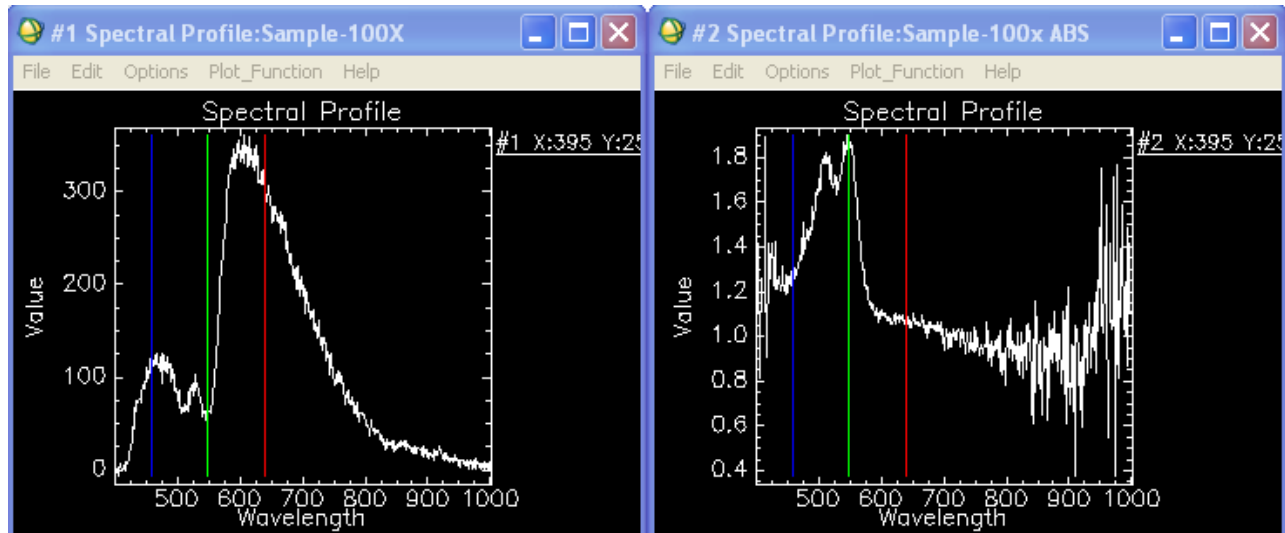

Figure 7.3d: Original image spectra (left) and converted absorption image spectra (right)
- The spectrum of the original sample, at the cross-hair and the absorption spectrum, at the cross-hair of the converted image (Figure 7.3d).